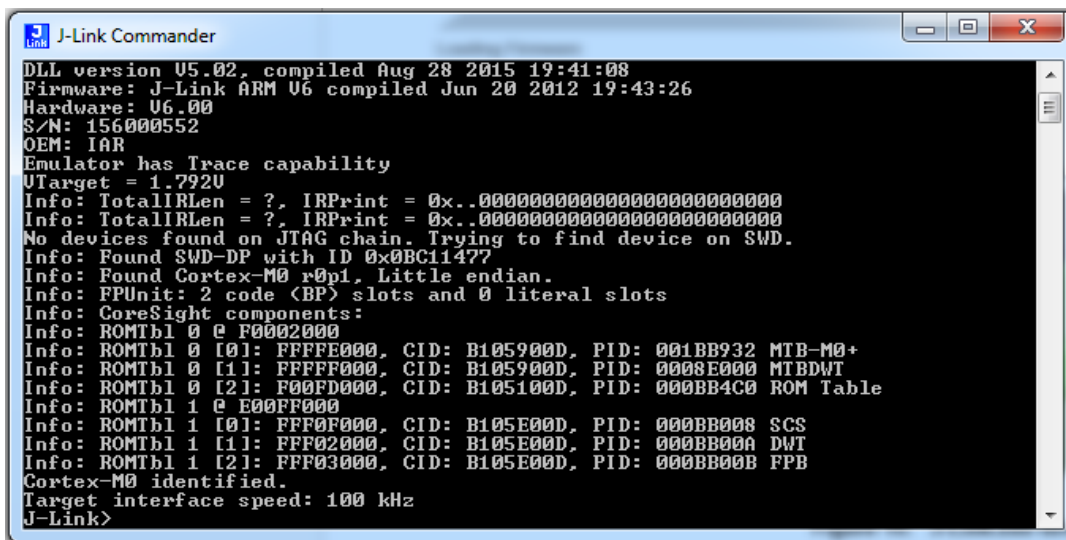

Figure 10. J-Link.exe terminal
4. In the J-Link software installation folder, execute the program JLink.exe. A terminal window will open (see Figure 10).